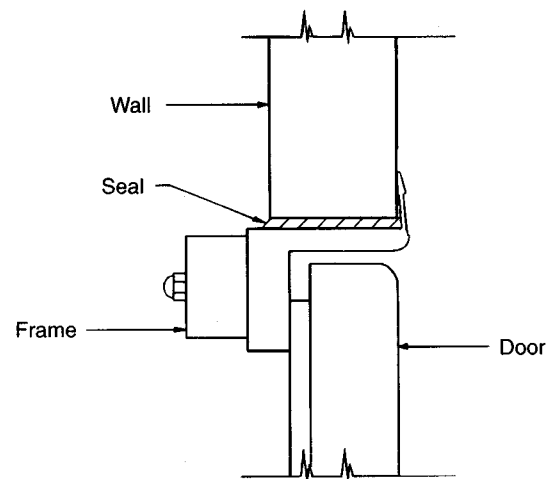

FIGURE 4
5. If necessary, loosen clamp and wedge from rear of frame with a screwdriver until sides are square. Hold in place with clamp. Fasten bottom, top and sides with No. 10 x 1 1/2" wood screws. Do not over tighten or distortion may occur. Caulk perimeter of frame on refrigerated side (**Figure 4**).